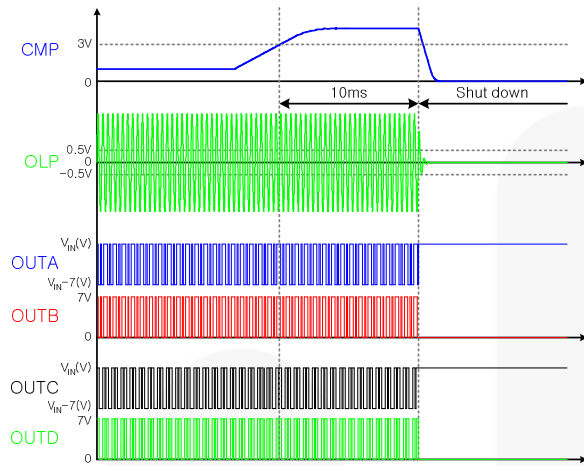

Figure 54. CMP-High Protection
**CMP-High Protection:** If CMP is more than 3V in normal mode, the IC is shut down after a delay of 10ms, as shown in Figure 54. This protection is disabled in striking mode to ignite lamps reliably.